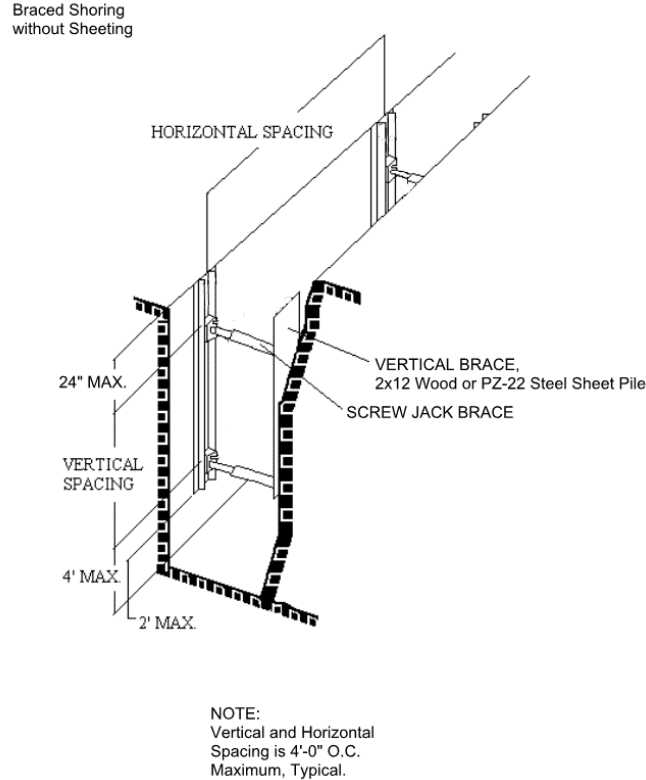

Fig. 5
3. For braced shoring, the screw jack braces shall be installed per design Table 2, page 8. The lowest brace shall be no more than 4’ from the bottom of the trench. The top brace shall be no more than 2’ from the top of the trench. Use two braces minimum per vertical shoring member. See Fig. 5, page 11.